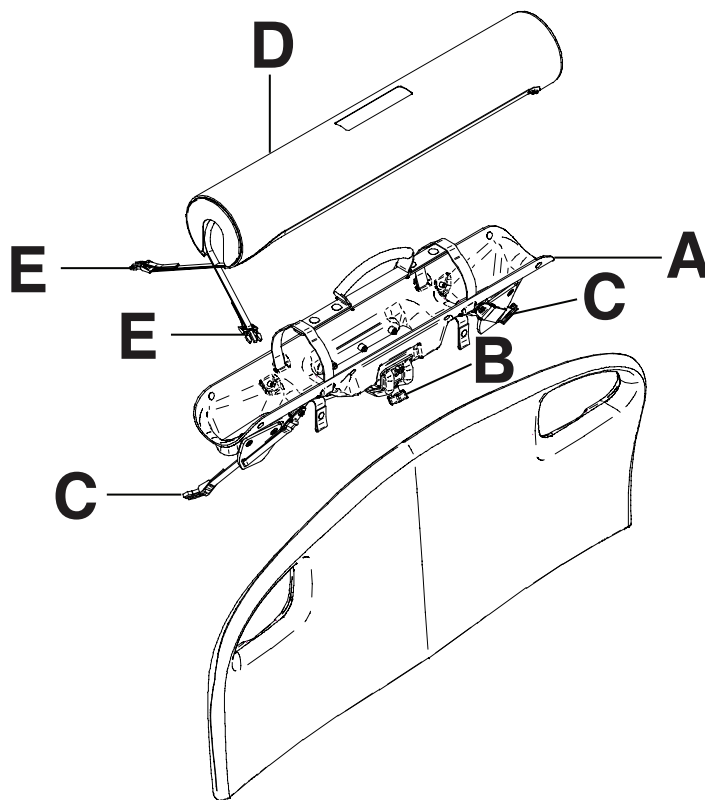

Figure 126: Right fit oxygen bottle holder
1. Place the oxygen bottle holder on top of the headboard (A) (Figure 126 on page 105).
2. Screw on the oxygen bottle holder clasp onto the headboard (B) (Figure 126 on page 105) to secure the bottle holder to the product.
3. Route the bottom straps (C) through the headboard handles (Figure 126 on page 105).
6. Place the oxygen bottle holder cover on top of the oxygen bottle (D) (Figure 126 on page 105).
7. Fasten the oxygen bottle holder cover straps together (E) (Figure 126 on page 105).